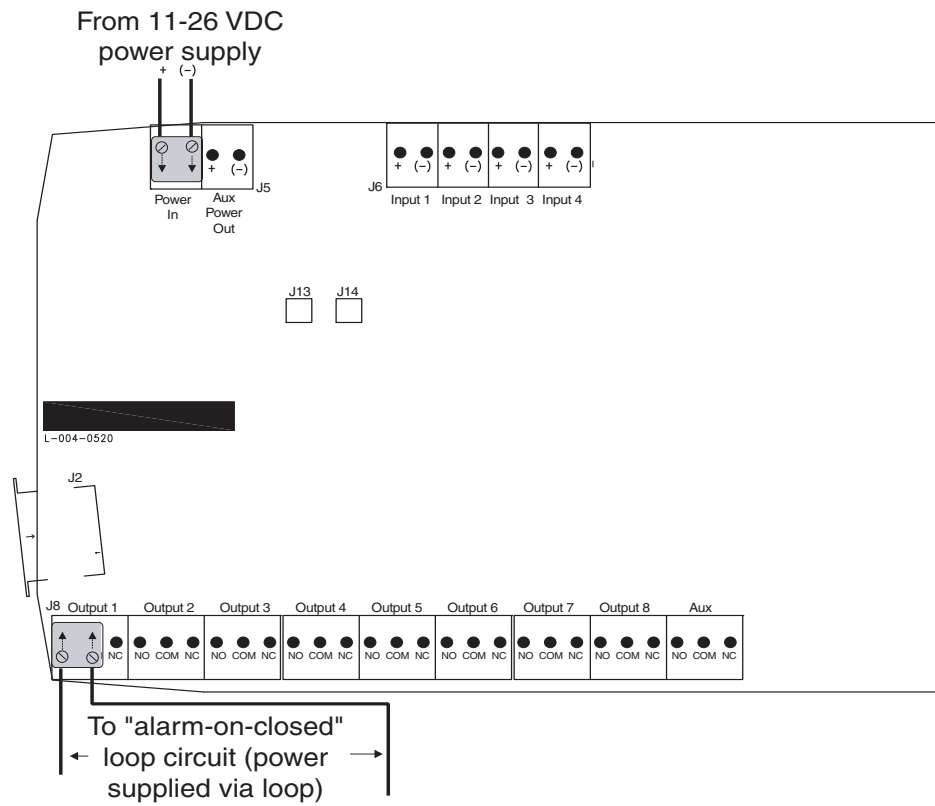
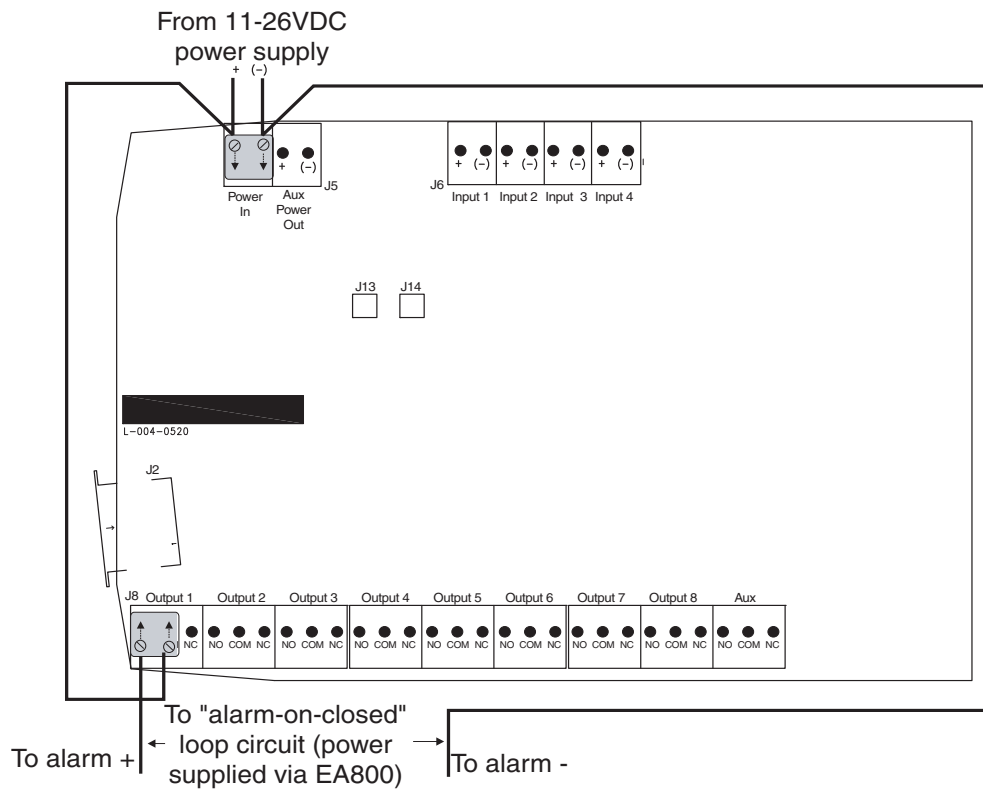

Figure 9 Typical Alarm Loop Wiring Configuration (External Power)
Figure 10 Typical Alarm Loop Wiring Configuration (Self-Powered)
11. Decide the loop design you will use. Figure 9 shows an alarm loop where alarm power is derived from the alarm loop. Figure 10 shows an alarm loop where alarm power is derived from the power supply feeding the EA800.